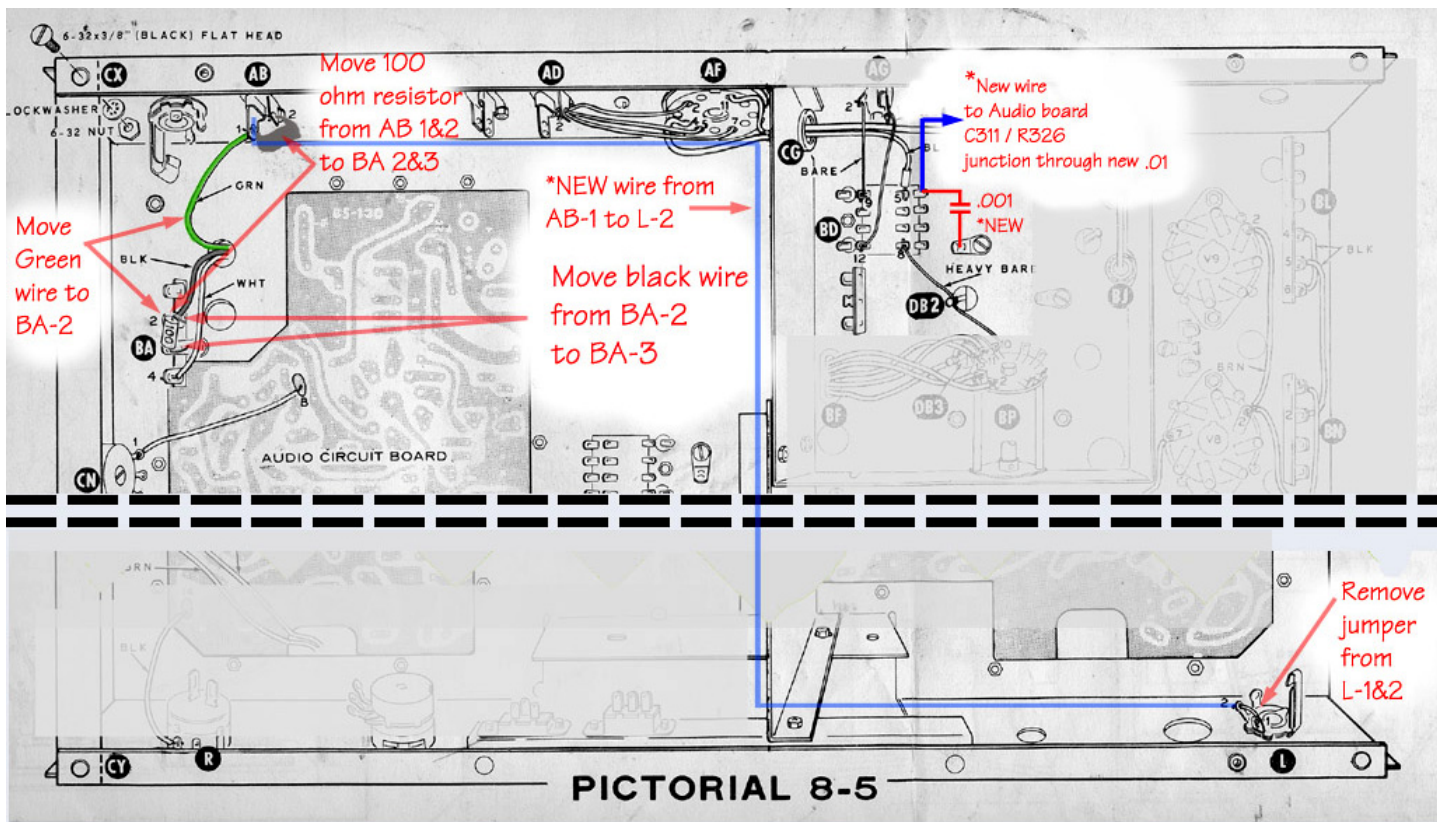

Figure 1
These rigs are designed to be used with Hi-Z headphones, but if low-Z phones are used the outboard speaker will not mute completely with the phones connected. To convert to low-Z phones, make the following wiring changes referring to (*Figure 1*) of this document, and pictorial 8-4 (foldout from page 53), and pictorial 8-5 (foldout from page 67) of the HW-101 manual:
- 1) Connect a .001  $\mu$ fd disk capacitor (DO NOT use a higher value) from relay RL1 pin 1, to ground (**Figure 1**).